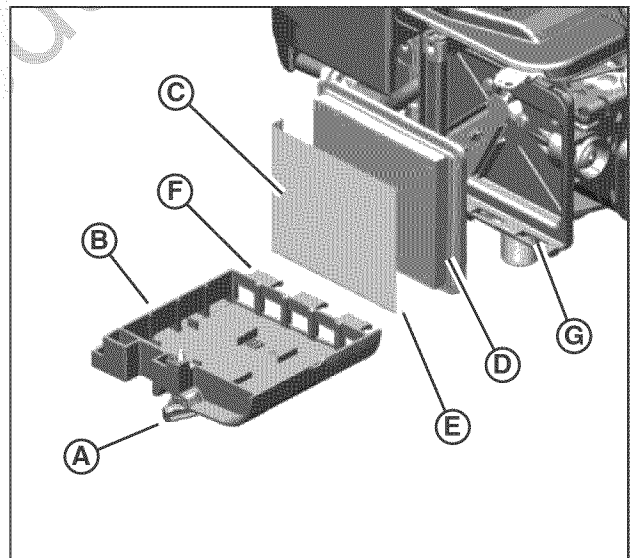

Figure 15: Air filter and pre-cleaner
1. Loosen the fastener (**A**, **Figure 15**) that holds the cover (**B**).